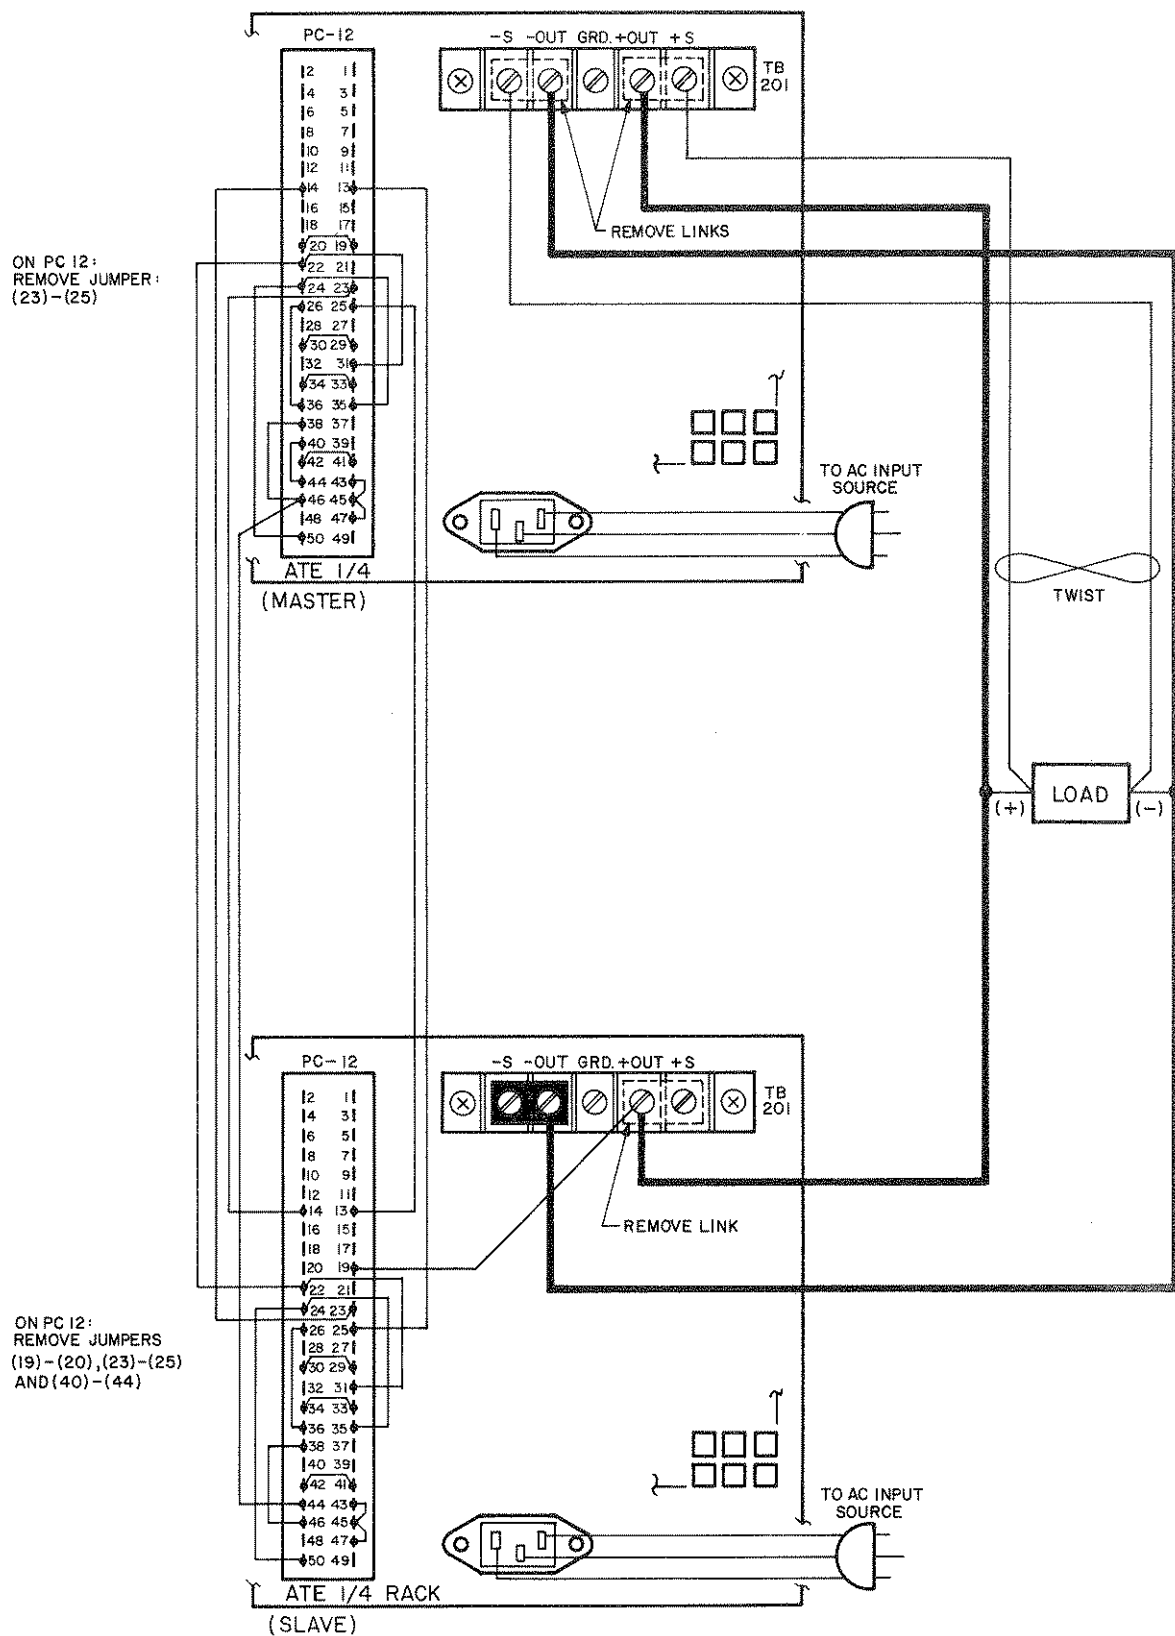

FIG. 3-26 MASTER/SLAVE PARALLEL CONNECTIONS
- 2) Make all load and sensing connections as shown in FIG. 3-26.